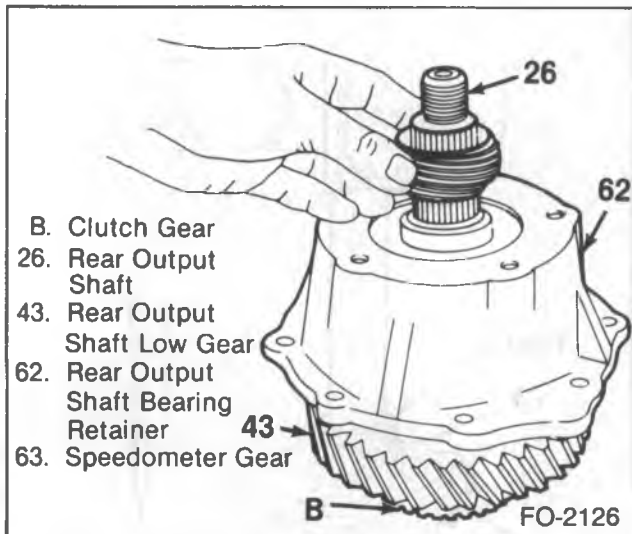
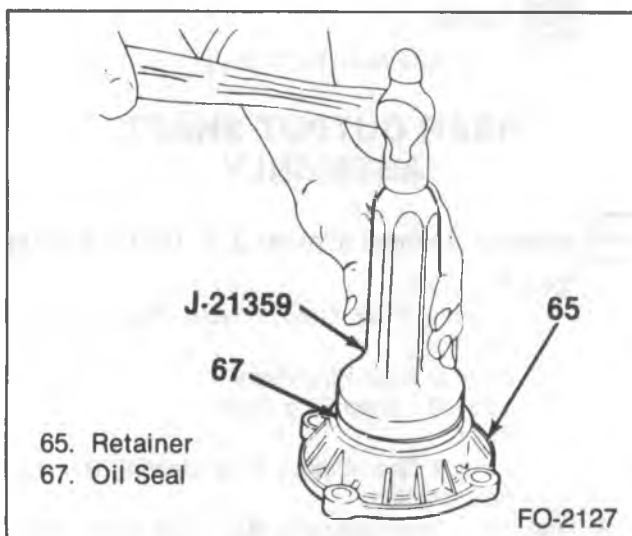

Figure 17—Installing the Speedometer Gear
Figure 18—Installing the Rear Bearing Retainer Seal
18. Speedometer gear (63) (figure 17).
19. Rear output shaft bearing (9) in the bearing retainer housing (62), using J 22875.
20. Rear bearing seal (67) in the seal retainer (65), using J 21359 (figure 18).
21. Seal retainer (65) on the retainer housing (62).
22. Retainer bolts (66).